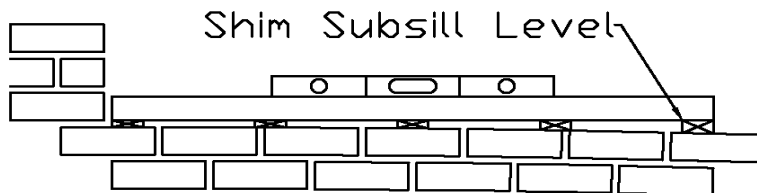

Figure 17
1. Place previously sized and fabricated subsill (refer to “Fabricate and Size Sill Flashing” on page 7 of these instructions) into opening. Starting at the location of the smallest R.O. height, install 1/4” shim (minimum recommended height) and anchor to structure at that location with appropriate anchor. Verify subsill is level as per figure 18. Working out from initial anchor location, shim subsill level (see figure 17 and figure 18) and anchor to structure every 12” to 24” on center as appropriate for anchor types* and to maintain level. Also anchor subsill to structure at a maximum of 4” from each end. Seal all anchors thoroughly.